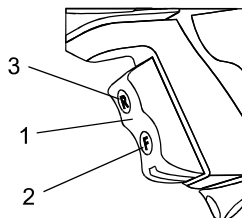

Figure 2
This Impact Wrench is equipped with a rocker style forward/reverse switch (1) (see Fig. 2).
1. To operate the Impact Wrench in the forward direction, press and hold the bottom part of the switch (2). This direction of rotation will tighten the fastener.
2. To operate the Impact Wrench in the reverse direction, press and hold the top part of the switch (3). This direction of rotation will loosen the fastener.